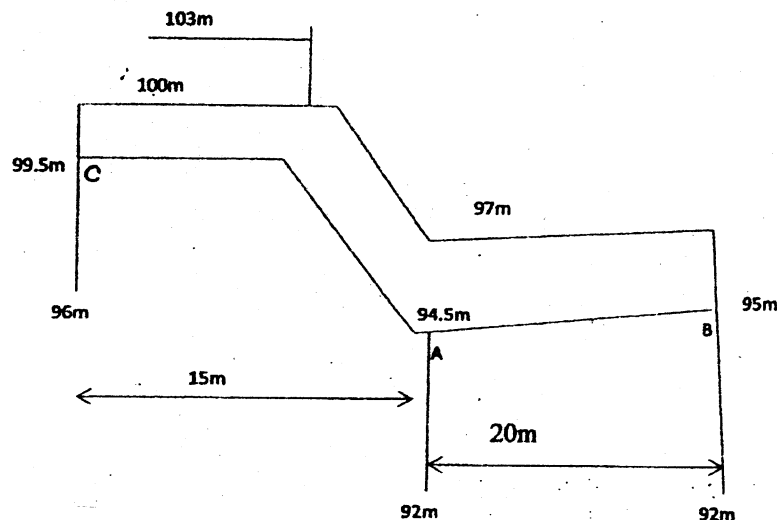

Fig. 1
- c. Write down the importance of canal lining. (4)
3. a. Define groynes and explain different types of groynes (8)
- b. Explain different types of flood control measures (4)
- c. Explain different stages of rivers (4)
4. Calculate the uplift pressure at key points of Piles in Fig 1. Also check the thickness of the floor at A, B location and exit gradient. The safe exit gradient is 0.2 (16)